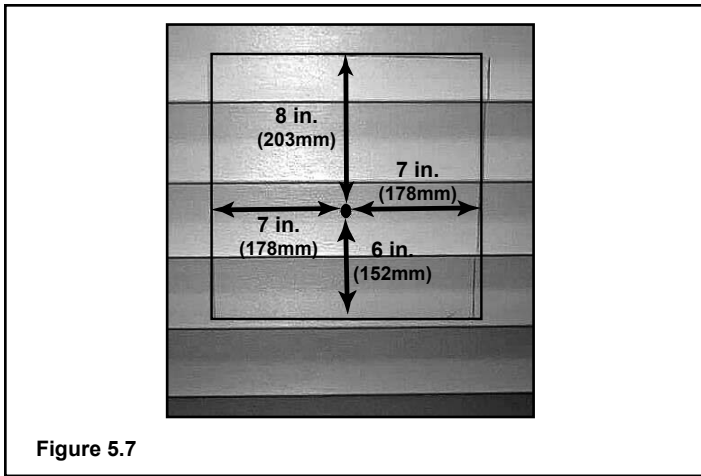

Figure 5.7
- (1) The four wood screws provided should be replaced with appropriate fasteners for stucco, brick, concrete, or other types of sidings.
- (2) Termination cap HHW2 (Part #841-0670) is highly recommended on a building with vinyl siding, as the vinyl siding standoff is built in. The pilot hole will be 2 in. (51mm) closer to the bottom of the square than the top. Using a framing square, draw a 14 in. x 14 in. (356mm x 356mm) square around the pilot hole in the siding. See **Figure 5.7** on the next page.